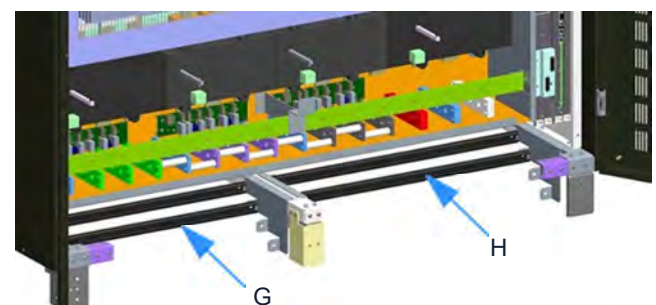
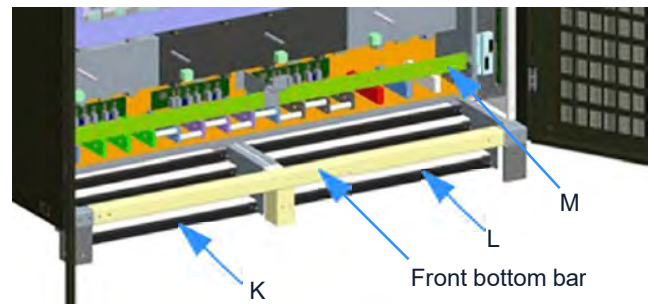

Figure 3.15
Figure 3.17
8. Fit two cable securing bars (G), (H) between the next set of lugs on profiles (A), (B), (C) as shown in Figure 3.15. Secure each bar using two M5 nuts and bolts tightened to 6.0 Nm.
Note: For reasons of clarity the cables connected to the rear holes are not shown in Figure 3.15.
15. Fit the final two cable securing bars (K), (L) between the front set of lugs on profiles (A), (B), (C) as shown in Figure 3.17. Secure each bar using two M5 nuts and bolts tightened to 6.0 Nm.
16. Connect the Input, Bypass and output Earth cables to the earth busbar (M).
17. *Note: For reasons of clarity the cables connected to the power busbars are not shown in Figure 3.15.*